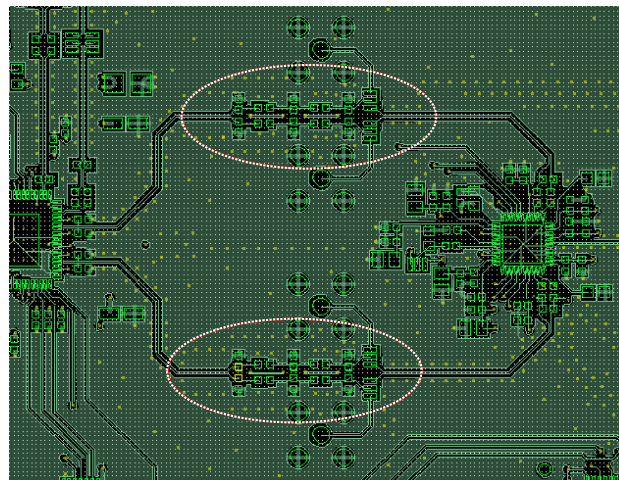

Figure 4. PCB Layout for Transmitter, DAC/Mod Interface Filter Section
3. PCB layout. As shown in Figure 4, the I and Q baseband inputs on the ADRF6702 IQ modulator are located on opposite edges of the device. Note the filter layout area within the dotted circles. To route the DAC output signals to these pins, the traces must travel up and then back down to get to the baseband pins on the ADRF6702. These differential signal traces should be of equal length, and any changes in direction of the trace should be done by using 45° bends. If these recommendations are not implemented, in-band ripple, phase, or amplitude response may be degraded in the filter response. Note that with this filter topology, the capacitors can be used differentially (across the signal path) or they can be used in a common-mode connection by placing the filter caps from the signal path pads to ground pads. There are conditions (discussed later in this circuit note) where common-mode capacitors improve performance vs. differential-mode capacitors.